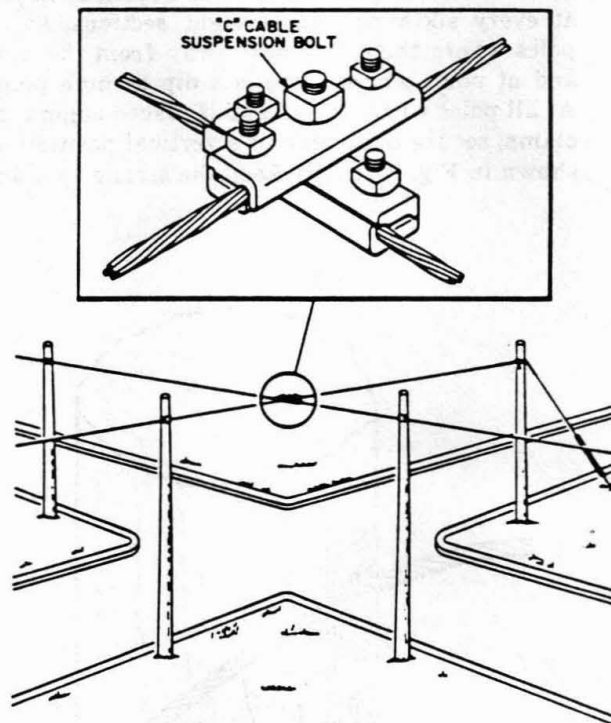

Fig. 10 — Crossover Arrangement
7.01 Where one suspension strand is to cross over another, use two cable suspension clamps at the crossover as shown in Fig. 10. Place the strand for the branch (or smaller) cable above the strand which will support the main cable.